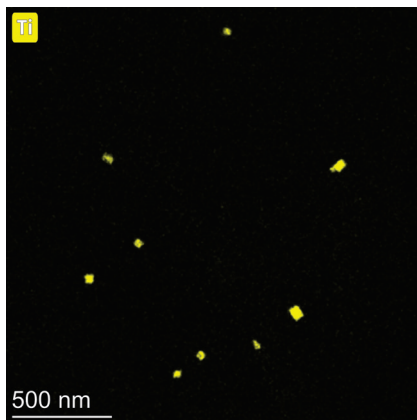

Fig. 4 — Left: One titanium EDS map. Right: The precipitates have been segmented and labeled by Avizo2D.
Using Thermo Scientific Avizo2D with Thermo Scientific Velox software and Thermo Scientific Maps Software, (S)TEM and EDS images are automatically recorded as part of the workflow and transformed into particle data, where the precipitates are segmented and labeled (Fig. 4). Precipitates analyzed at the nanometer scale are combined with results from other techniques investigating large precipitates (>500 nm). Together, these methods provide a comprehensive picture of both small and large precipitates across the sample. This information is then used to generate histograms showing the size distribution of each precipitate, providing the final information OCAS' customers need for their samples of interest (Fig. 5).